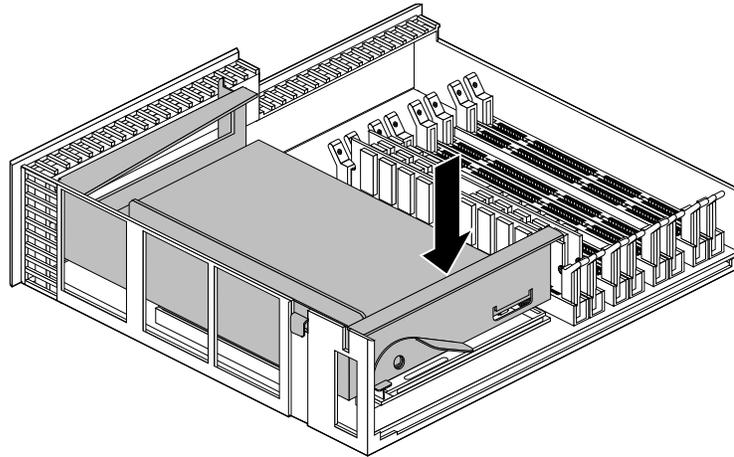

Figure 1-20 PCI Tray Seated Correctly
3. Push the tray down firmly until it is completely seated. You hear a click as it seats (Figure 1-20).